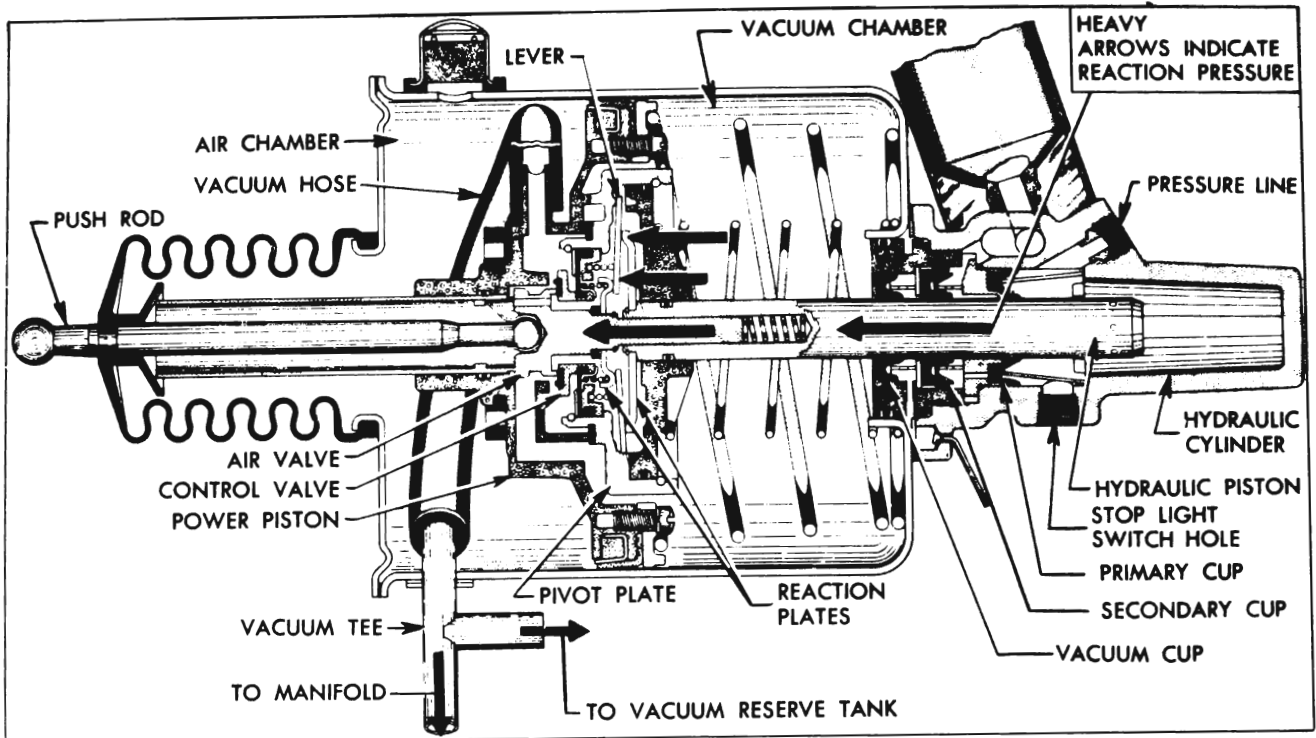

Figure 9-15—Applied Stage, With Reaction Pressure
(2) *Applied Stage.* See figure 9-15. As the brake pedal is depressed the push rod moves the air valve rearward until its annular seat contacts the floating control valve, at which point atmospheric pressure is sealed off from the *vacuum* chamber. Further movement of the air valve pushes the floating control valve away from its seat on the power piston, thus connecting the *vacuum* chamber to manifold vacuum through passages in power piston and the attached vacuum hose. As air is exhausted out of the *vacuum* chamber, atmospheric pressure
(3) *Reaction Pressure.* As pressure is built up in the brake pipes and wheel cylinders during brake application, the hydraulic piston is subjected to the same pressure. Since the piston is free to move forward in the pivot plate cover, the pressure on the piston is transmitted through the attached reaction plate to the six reaction levers. The outer ends of the levers press against pivot points in the pivot plate and the inner ends press against the valve reaction plate which now bears against a shoulder of the air valve. See figure 9-15.
If the engine should start running while brakes are being manually applied, manifold vacuum would exhaust air from the *vacuum* chamber through the wide open passages in the power piston, and the power piston would move rearward and seal to the pivot plate as shown in figure 9-15.